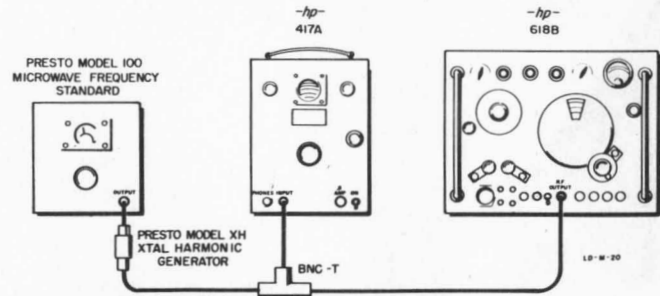

Figure 4-12. Test Setup for Frequency Calibration
6) Check calibration of MEGACYCLES dial through range of generator, using a microwave standard and suitable detector. (Test setup shown in Figure 4-12.) If accuracy at lower frequencies is outside 1% tolerance, the dial can be slipped slightly on its shaft to obtain desired accuracy at lower frequencies.